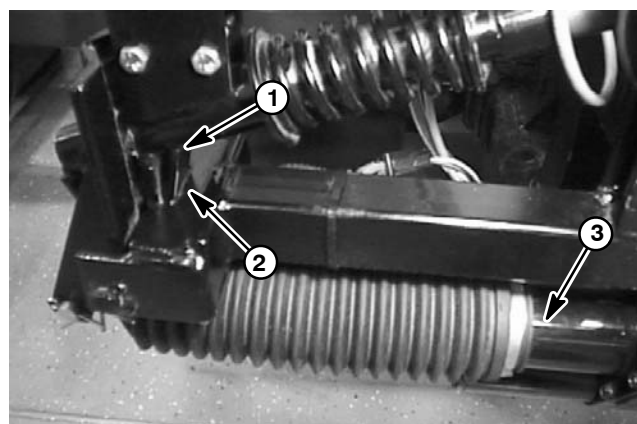

Figure 63
3. With the boom actuator at full extension, the break-away pivot gusset should just touch the center boom frame slot (Fig. 63).